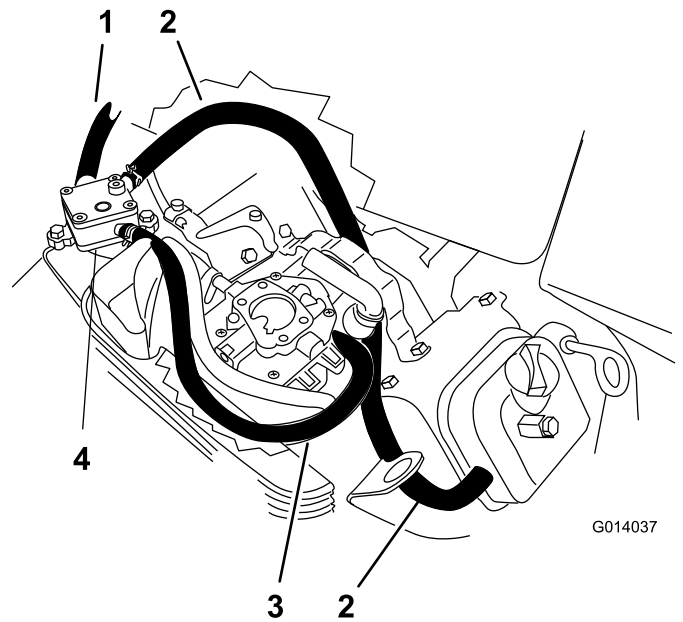

Figure 4
and to the middle port on the fuel pump (Figure 4). Install the hose clamps.
11. Install the new short hose to the fuel pump where the previous one was removed and is marked OUT on the pump (Figure 4).
13. Remove the medium sized hose and clamps from the fuel pump and from the side of the valve cover (Figure 4).